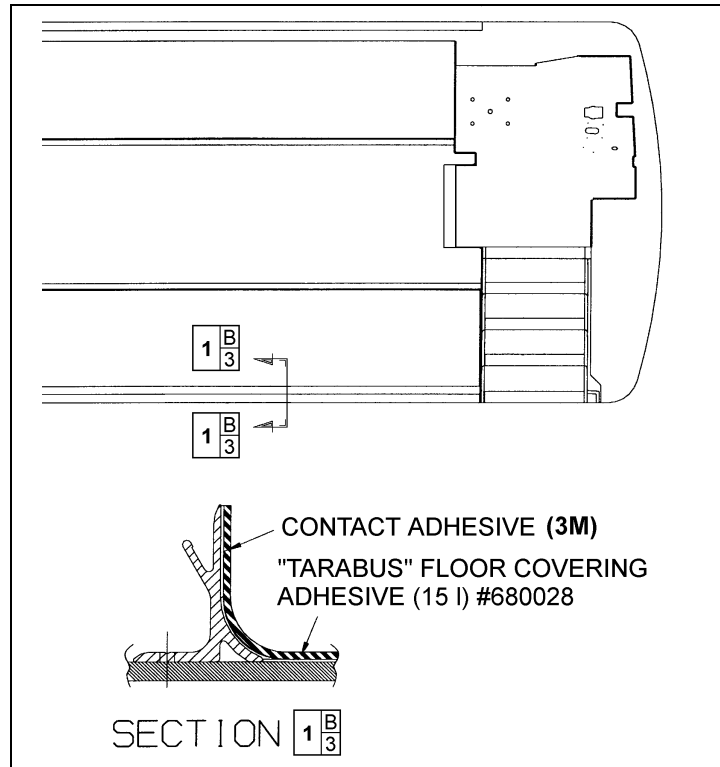

FIGURE 29: TARABUS FLOOR COVERING ADHESIVE APPLICATION
6. Apply floor covering adhesive (680028) onto plywood using a serrated spreader with 1/8-inch serration. If required, apply contact adhesive (3M) (684655 or 684654) onto aluminum molding and also onto section of floor covering, which will be in contact with molding (refer to Figure 29).